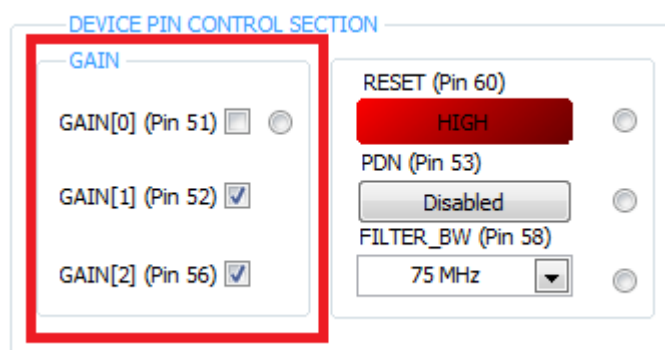

Figure 50. PGA5807 GUI Setup for PGA5807+ADS5296 Gain Test 4
- Return to the PGA5807 tab and change the **GAIN[x]** values in the *DEVICE PIN CONTROL SECTION* to 18dB as shown in Figure 50.